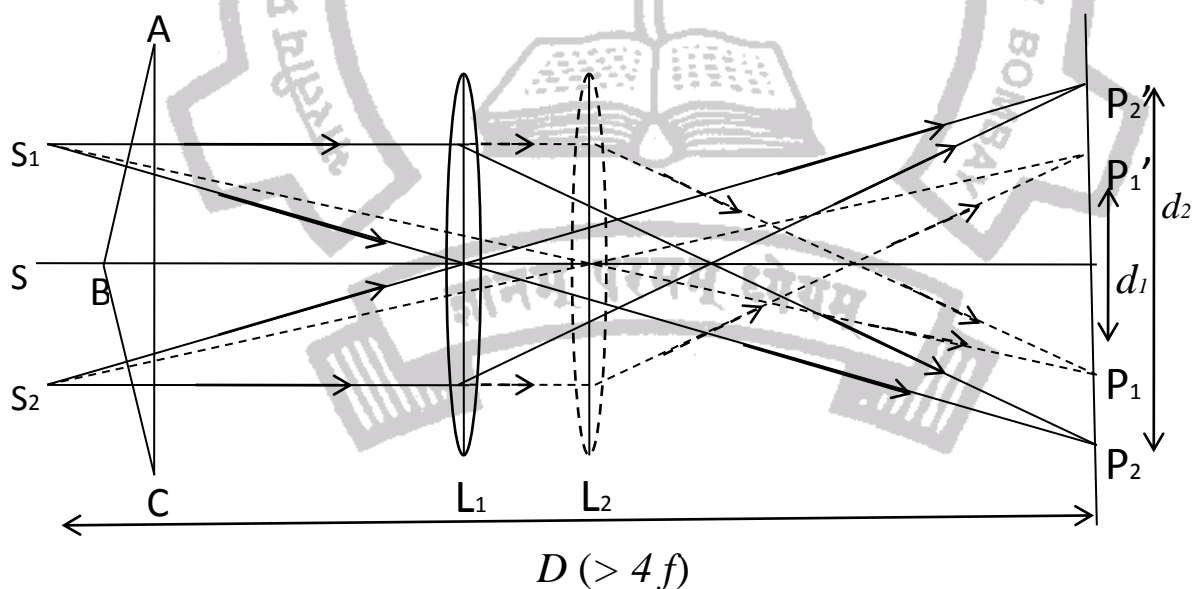

Fig.4: Measurement of d
B. Measurement of the distance between the virtual sources d [see Fig.4]: